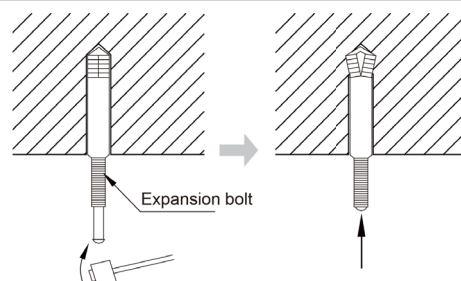

Fig 4.1.4
- (2) Insert the M10 expansion bolt into the hole and then knock the nail into the bolt, as shown in fig 4.1.4.